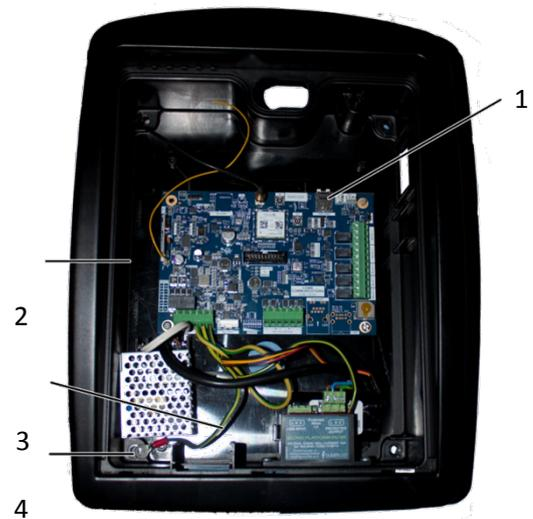

Figure 19: Mounting Plate
17. Insert the SIM card in the slot (1) on the PCB and ensure that it is securely latched (See Figure 19).
18. Align the housing (2) with the mounting plate and replace the top two Allan Capped screws.
19. Place the earth wire (3) in position and replace the Allan Cap screw (4) that secures the earth wire and the housing.